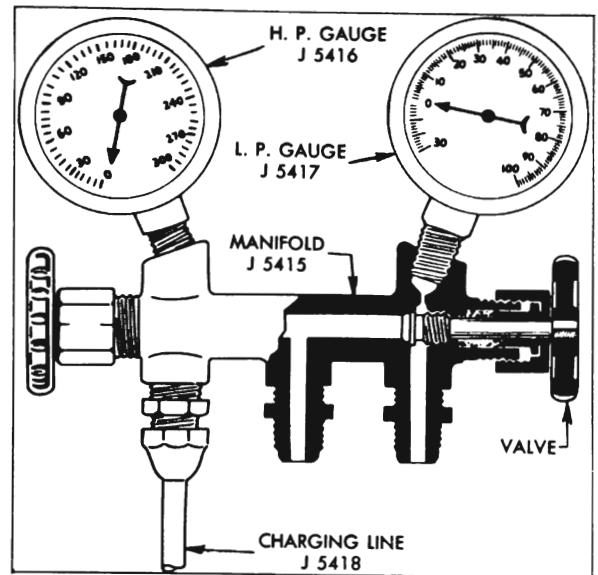

Figure 11-16—Pressure Gauge Set
2. Connect charging lines of Pressure Gauge Set (fig. 11-16) to gauge fittings of both valves, with both valves of Manifold J 5415 closed.